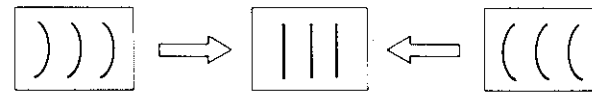

Fig. 28-7
2. Minimize the Y.BOW distortion with Y.BOW (RV13) on the DA board as shown in Fig. 28-7.
3. Minimize the Y.TILT distortion with Y.TILT (RV25) on the DA board as shown in Fig. 28-7.